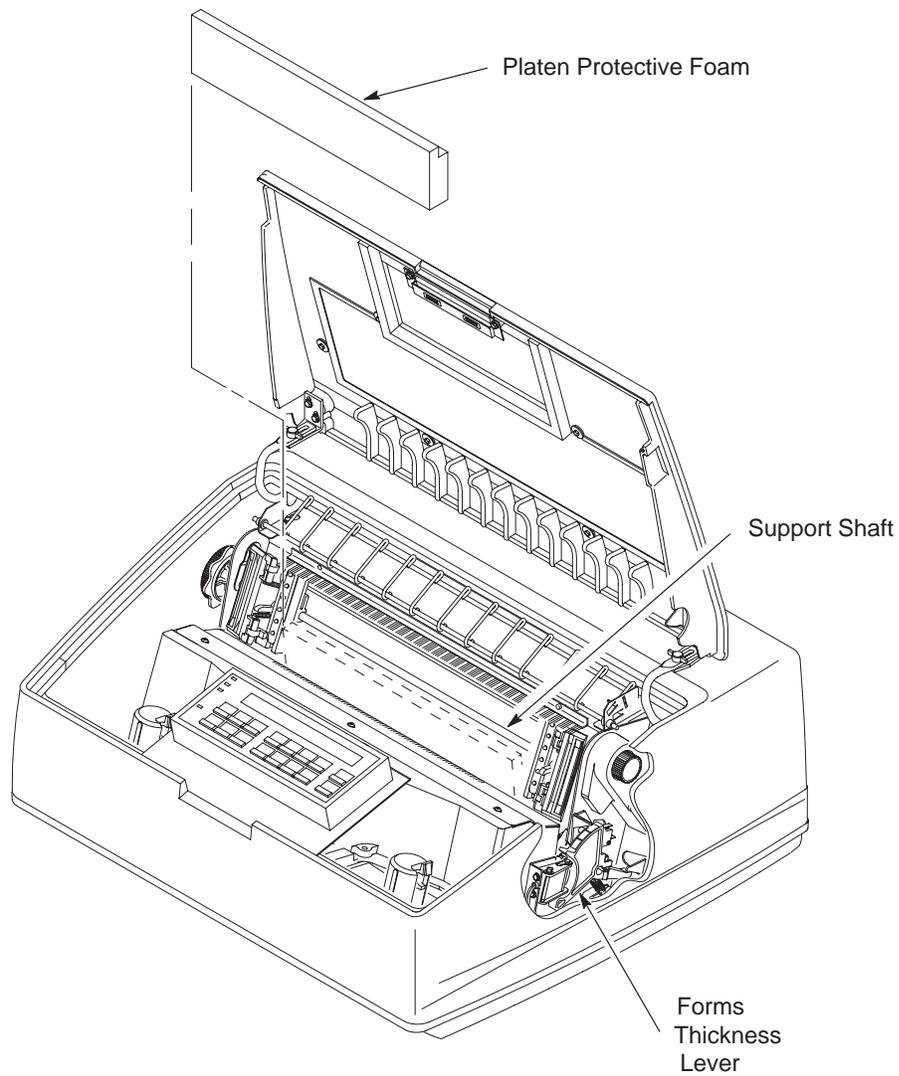

Figure 2–12. Removing the Platen Protective Foam
1. Rotate the forms thickness lever downward (to position “A”). (See Figure 2–12.)